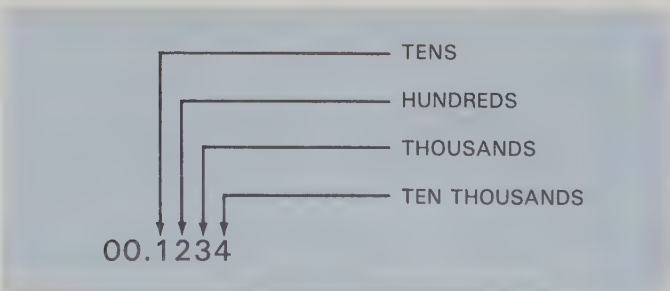

Fig. 2-2. Decimal numbers are read from left to right. Position of a digit to the right of the decimal point determines its place value.
Actually, .50 should be read as “fifty one hundredths,” because of place value. Positions of digits appearing to the right of a decimal point are given specific values, just as they are to the left for whole numbers. The place value of the digit farthest to the right indicates how many parts are required to make a whole. See Fig. 2-2.
The number shown in Fig. 2-2 indicates a very small quantity, because the digit farthest to the right (4) is